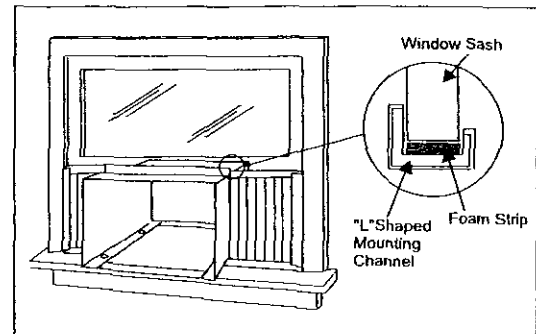

Fig 18
B. Ensure the "L" shaped mounting channel is positioned in front of the sash. The "U" shaped channel on the bottom of the cabinet should be positioned in the track provided on the bracket assembly. Pull the window down until it rests just behind the front of the "L" shaped mounting channel. See (Fig. 18)